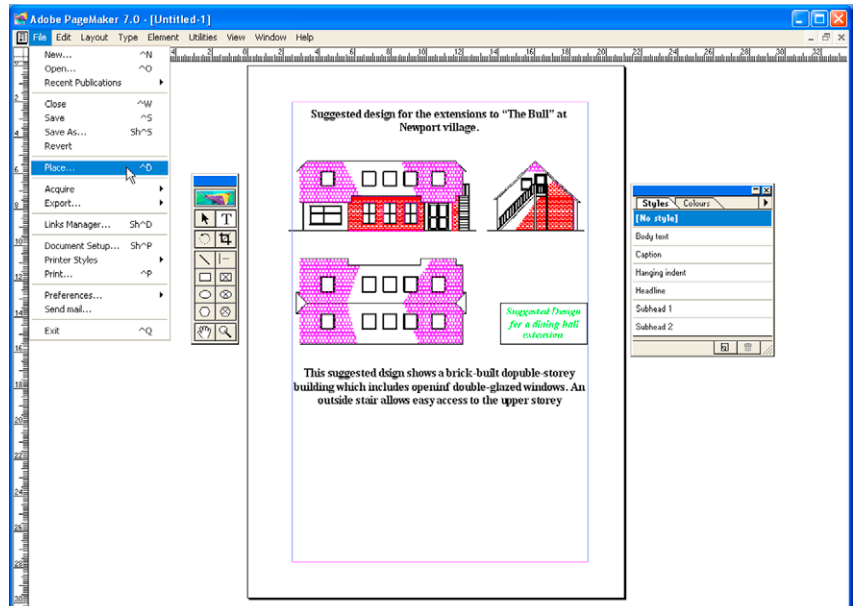

Fig. 10.4 An **\*eps** file placed in position in a PageMaker document
2. Open a desktop publishing application. That shown in Fig. 10.4 is **PageMaker**.
name and an icon appears the placing of which determines the position of the **\*eps** file drawing in the PageMaker document (Fig. 10.4).